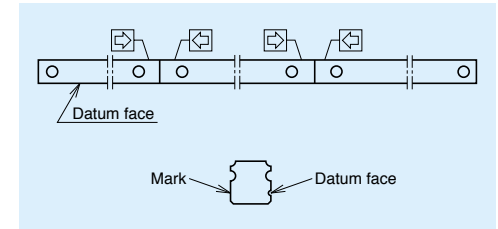

Fig. III -7-3
- The rails with butting specification are marked with arrows on the opposite side of the mounting datum. When mounting the rails, follow the procedure shown in Fig. III -7-3.